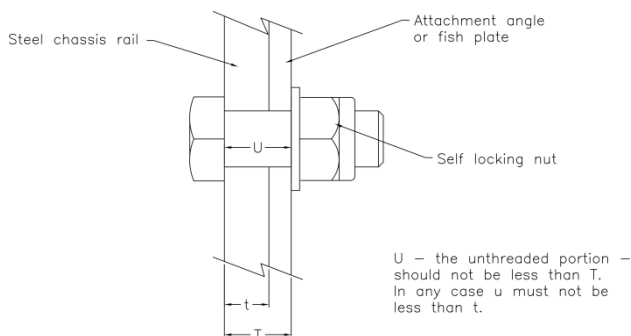

Figure 16: Minimum bolt thread length
- Ensure the unthreaded position is not less than the total bolting thickness and not less than the chassis rail thickness (see Figure 16).